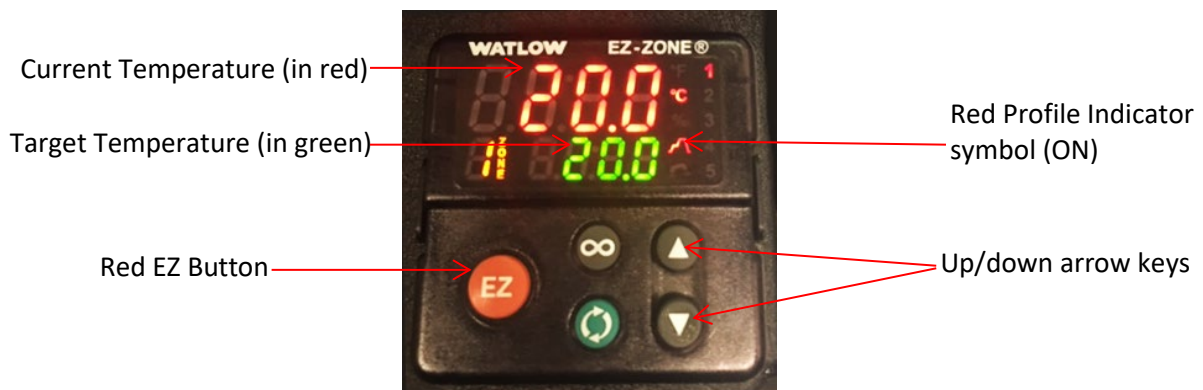

Figure 46: Watlow Controller on Base Unit
1. If the red Profile Indicator (steps) symbol is highlighted on the Watlow controller on the Base Unit, press the red **EZ** button to turn it off. Refer to Figure 46.